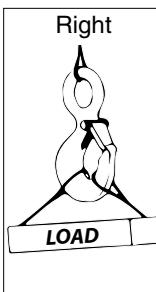

Figure 3
- When placing two (2) sling legs in hook, make sure the angle between the legs is less than 90° and if the hook or load is tilted, nothing bears against the bottom of this latch (See Figures 3 & 4).